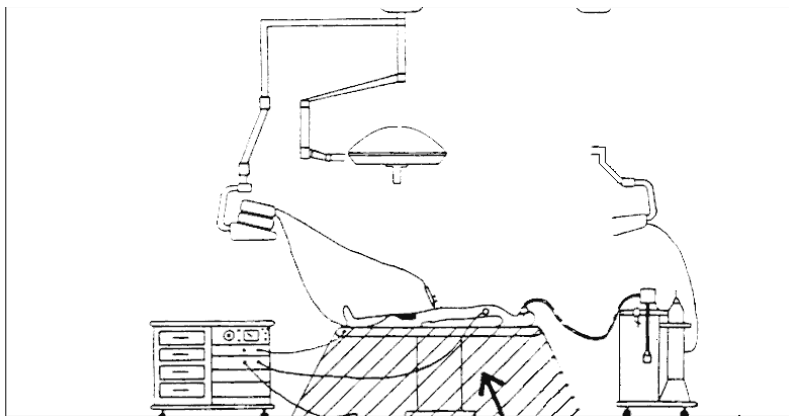

Figure 9: Location that only AP footswitches can be used
- In the event of using the non-AP pedals, do not clean and disinfect them with the explosive substance. Do not use in Medical Zone, i.e. 25-centimeter site where the leakage of combustible anesthetic gases may occur. Medical Zone is shown in figure 9.